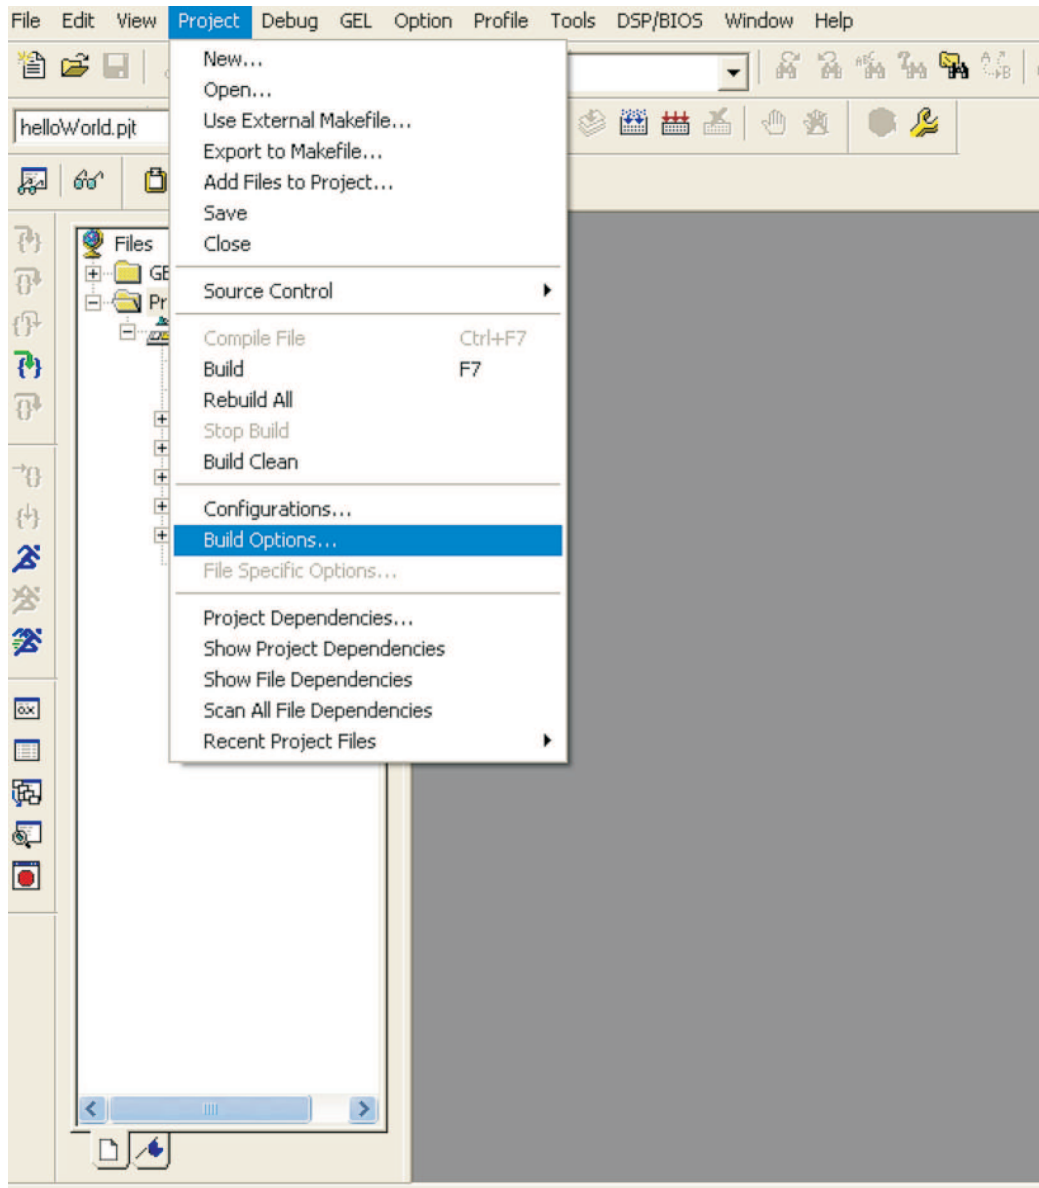

Figure 2. Configuring Build Options Through Code Composer Studio
- a. Open the application project in Code Composer Studio IDE. Go to Project → Build Options and click on it as shown in Figure 2: